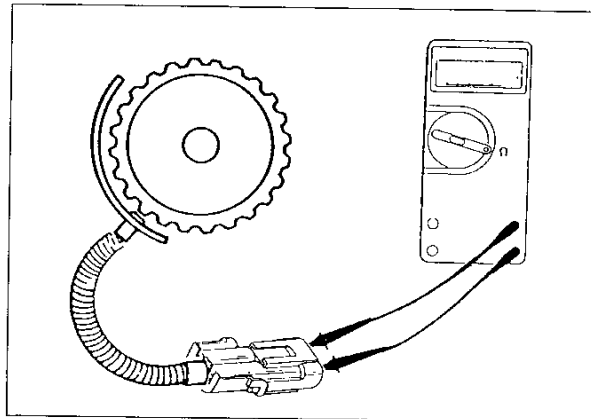

FIG. 1.1.36
**Correction:** Check that connections are tight with no evidence of corrosion. Disconnect harness at the control module. Measure resistance between tach sender wires; 50 - 300 ohms is a good reading (Fig. 1.1.36). The Motorola 7EP2033 or Volvo/White 13603-0013 will read 245 - 255 ohms.